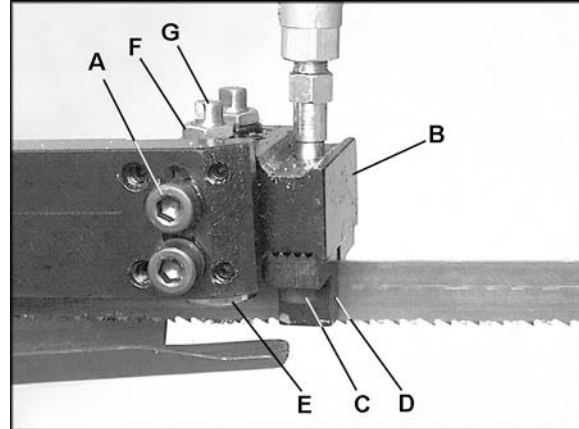

Figure 18
2. Loosen the two socket head cap screws (A, Figure 18) and move the guide seat (B, Figure 18) up or down until the guide blocks (D, Figure 18) are positioned adequately across the width of the blade.
3. Loosen the socket head cap screws (C, Figure 18) on the carbide guide blocks (D, Figure 18) and shift both guide blocks until they place a light pressure on the blade. Re-tighten the socket head cap screws (C, Figure 18).
4. The outer guide bearing (E, Figure 18) is mounted to an eccentric bushing and is adjustable. Loosen the hex nut (F, Figure 18) and rotate the bearing shaft (G, Figure 18) with a wrench until the bearing (E, Figure 18) clears the blade by approximately .001". Do not pinch the blade.
5. Re-tighten hex nut (F, Figure 18).